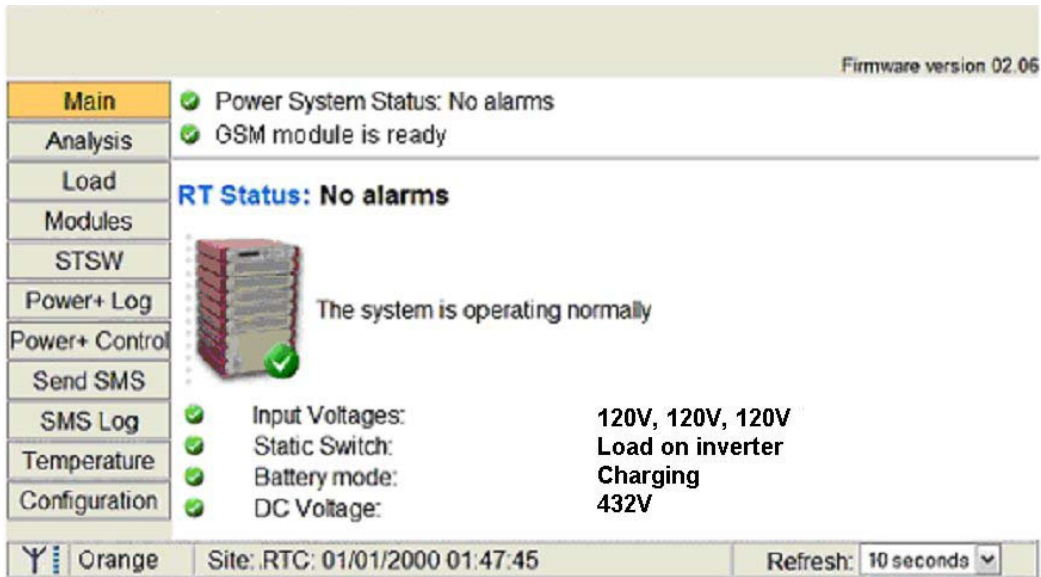

Figure 120: Main Screen of the Power+ Web interface
4. On a computer terminal that has connectivity to the Power+ IP address, open a Web browser and enter the Power+ IP address in the URL bar. For example: “//192.102.2.130” (without quotation marks), and press Enter. You should see the Web interface main screen (see Figure 120 below).
The Main Screen (see Figure 120 above) is the first screen you see when connecting to the GMaCi software.
The Main Menu of Power+'s built-in remote management software consists of a column of option buttons on the left side of the Main Screen (see Figure 120 on page 75).